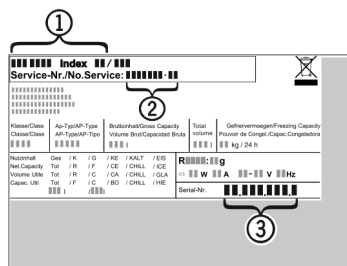

Fig. 7
- ▶ Read the appliance designation *Fig. 7 (1)*, service No. *Fig. 7 (2)* and serial No. *Fig. 7 (3)* off the model plate located inside the appliance on the left-hand side.
- ▶ Notify the customer service, specifying the fault, appliance designation *Fig. 7 (1)*, service No. *Fig. 7 (2)* and serial No. *Fig. 7 (3)*.